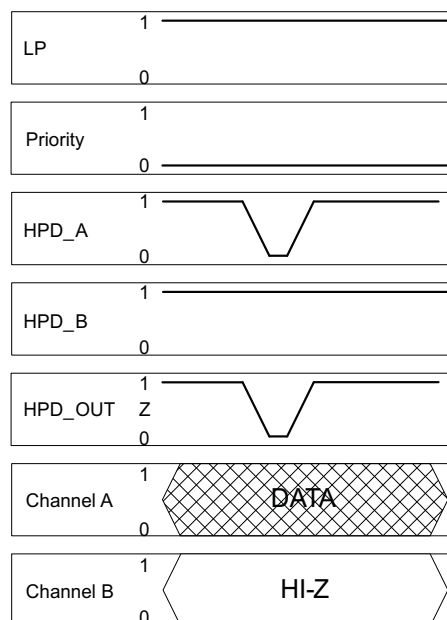
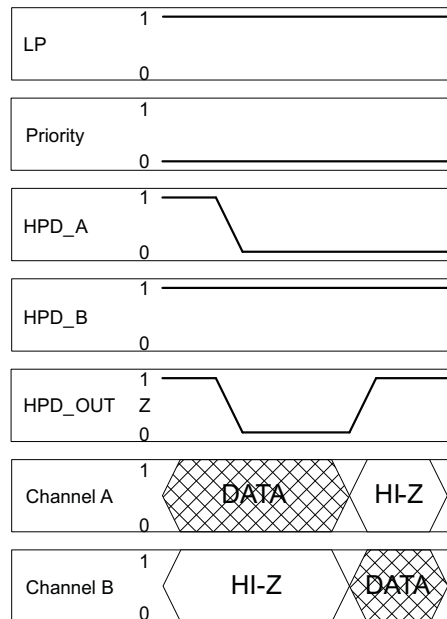

Figure 22.
Figure 23.
- Case two: In this case both HPD inputs are initially HIGH and the selected port has been determined by the state of the priority pin. The HPD output logic state follows the state of the selected HPD input. If the HPD input pulses LOW, the HPD output to the source also pulses LOW for the same duration of time, again with a slight delay (see Figure 22). If the duration of the LOW pulse exceeds $t_{T2(HPD)}$, the device assumes that an unplug event has occurred and the other port is selected (see Figure 23). The case in which the previously selected port with priority goes high again is covered in scenario 3.